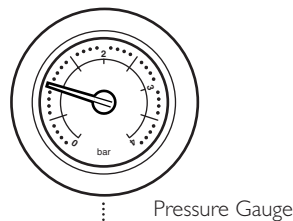

Fig. 45
5. Pressurise the system to 1.0 bar (Fig. 45) then close and disconnect the filling loop.